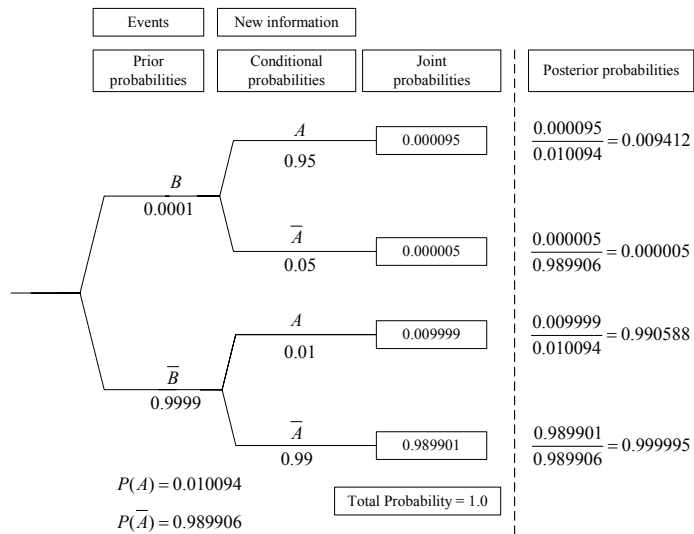

Figure 14. Probability-Tree Representation of a Bayesian Model
- The probability tree for the two cases of Example 5 is shown in Figure 14.